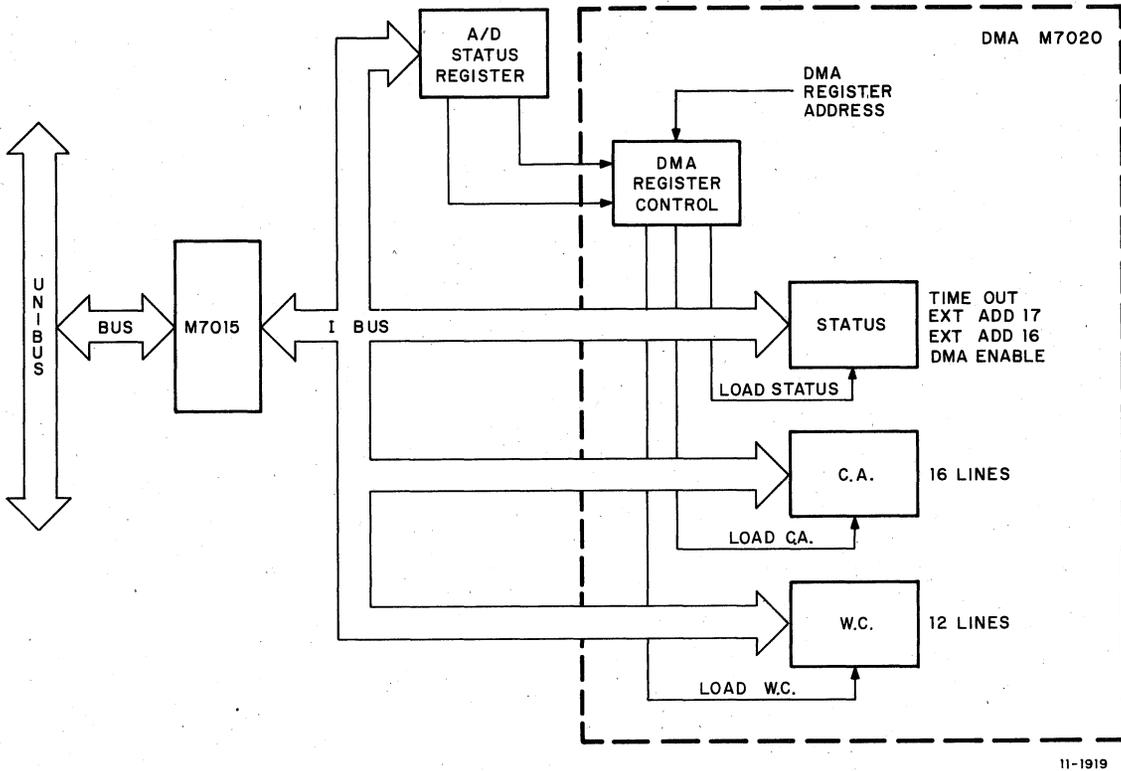

Figure 3-24 DMA Register Control Block Diagram
**3.2.11.1 DMA Programming** – A/D Status register bits 02 and 01 are used to point to the DMA registers (Figure 3-24), which consist of Status, Word Count, and Current Address registers with associated control and timing circuits.